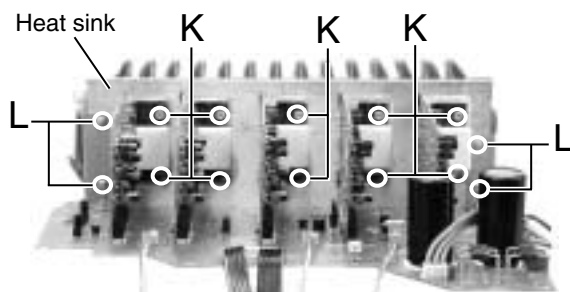

Fig.11
■ Removing the Heat sink (See Fig.11 to 12)